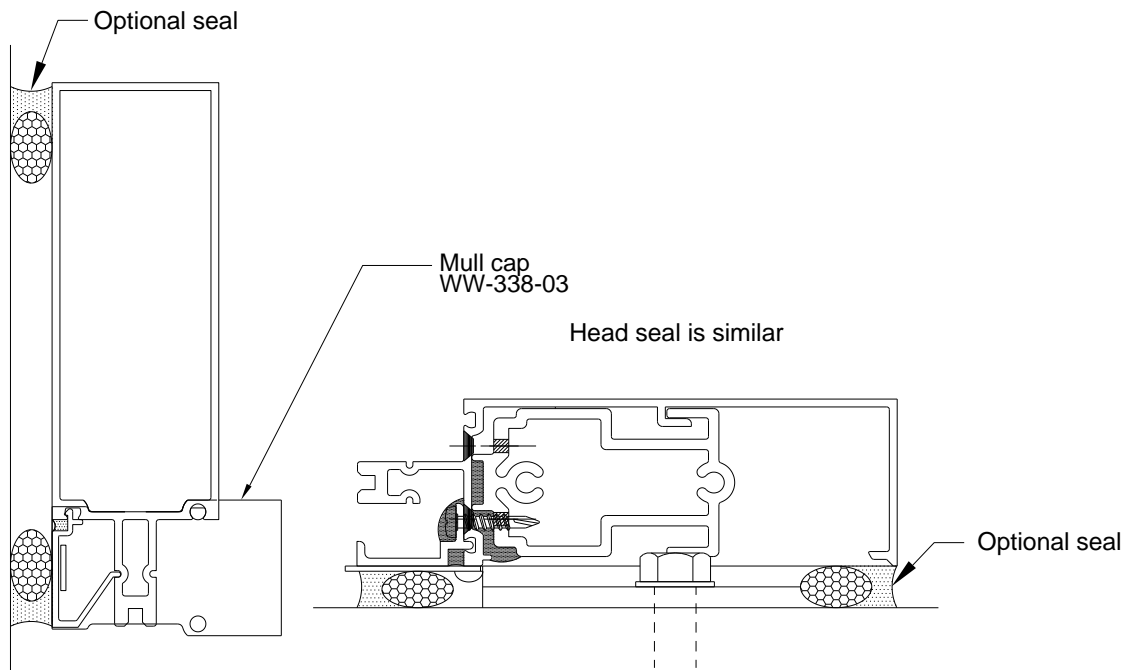

Figure 20: Perimeter Seal
- 11.5 When all framing members are installed, apply the perimeter seal. See *Figure 20*. The interior perimeter seal is not required for system performance, but can be installed for cosmetic purposes. Perimeter sealing must be completed prior to glazing.